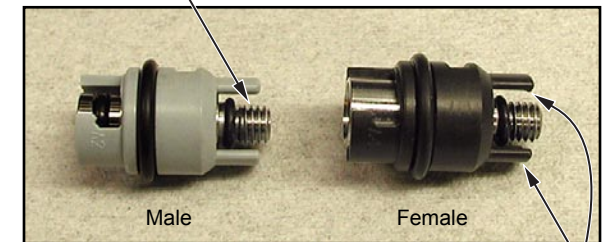

Figure 4-15
1. Add a light coating of locking adhesive to threads of CPC connector (see Figure 4-15).
3. Turn connector CW with hex wrench until it takes hold, then press and wiggle connector with your fingers until alignment ears click into their slots (see Figure 4-15).